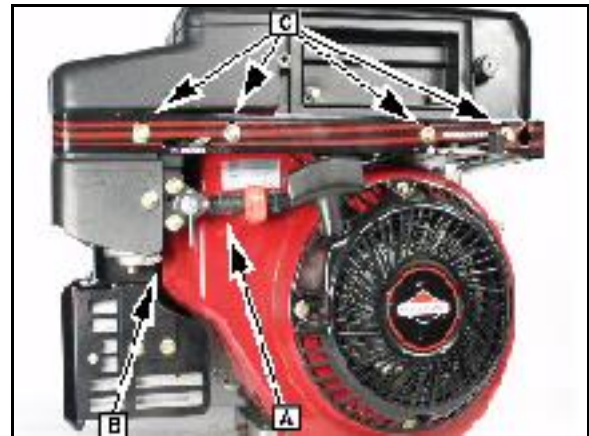

Fig. 14
1. Release clamp and disconnect tank hose at shut-off valve ([A] Fig. 14).
3. Open carburetor bowl drain screw ([B] Fig. 14), if equipped, and drain remaining fuel into appropriate container. Close bowl drain screw.
5. Remove screws ([C] Fig. 14) that secure trim plate.